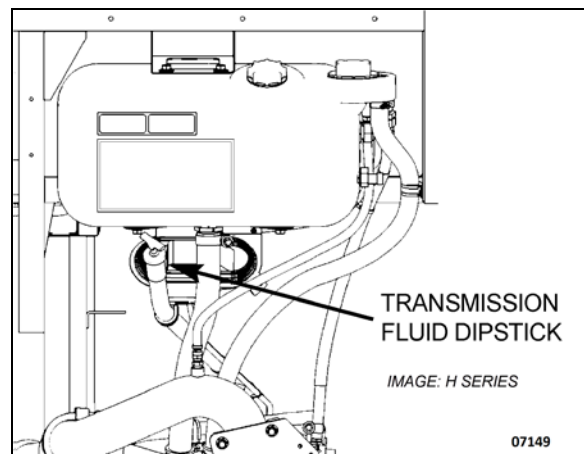

FIGURE 4: OIL LEVEL DIPSTICK (ALLISON)
To gain access to the dipstick, open the engine compartment rear door; dipstick is located on the radiator side of the engine (Figure 4).
4. While the engine is running, remove the dipstick from the tube and wipe it clean (Figure 4). Insert the dipstick into the fill tube, pushing down until it stops.